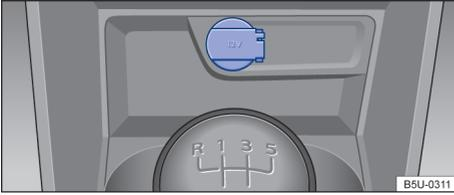

Fig. 104 In the front centre console: 12 V socket.
- In the front centre console → Fig. 104.